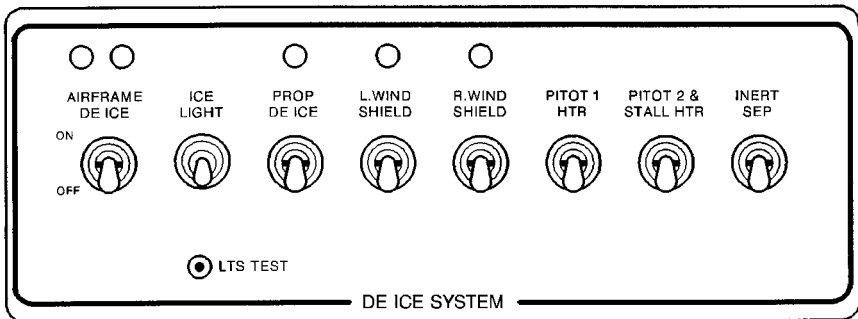

Figure 7.13.1 - DEICING CONTROL AND CHECK PANEL
7.13 - ICE PROTECTION EQUIPMENT (Figure 7.13.1)